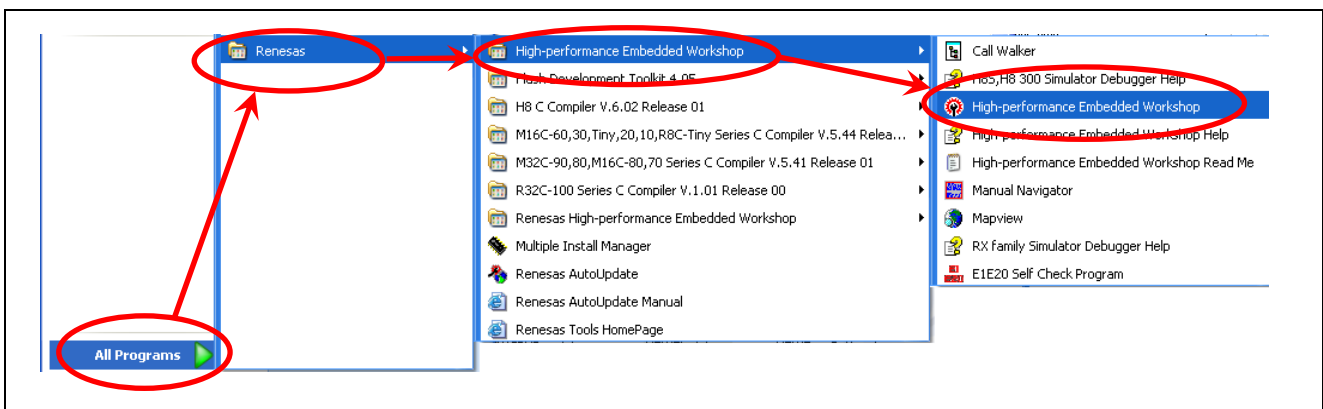

Figure 4.2 Activating the High-performance Embedded Workshop
- (1) From [All Programs] in the [Start] menu, select [Renesas -> High-performance Embedded Workshop -> High-performance Embedded Workshop] as shown in Figure 4.2 to activate the High-performance Embedded Workshop.